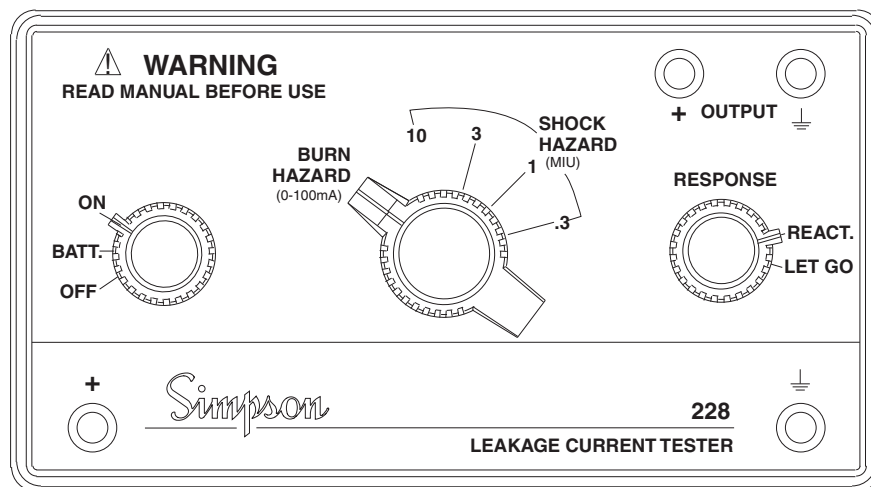

Figure 9
1. Turn Function Select switch to **BURN HAZARD** (see Figure 9 below).
4. Turn Function Select switch to **BURN HAZARD** (see Figure 9, page 15).